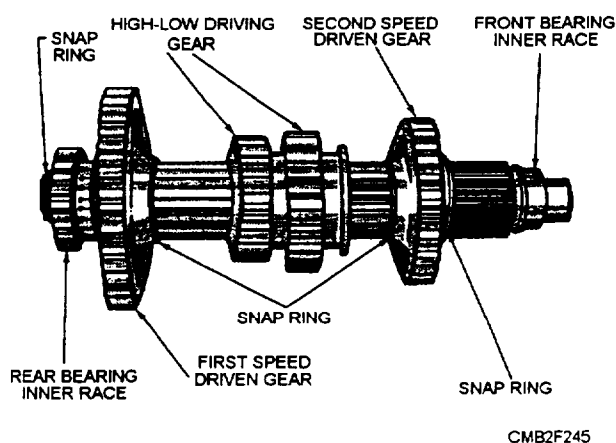

Figure 6-4.—Spline shaft.
- The SPLINE SHAFT (fig. 6-4) rotates on two straight roller bearings. The rear bearing is mounted in the transmission case; the front bearing is mounted in the transmission cover. The first and second driven gears are held in position on the spindle by snap rings and are constantly meshed with the first and second speed drive gears on the clutch shafts. The hi-lo driving gear slides freely on the shaft and drives the bevel pinion shaft when brought into mesh with either the high or low range driven gear by means of the hi-lo shifting lever.